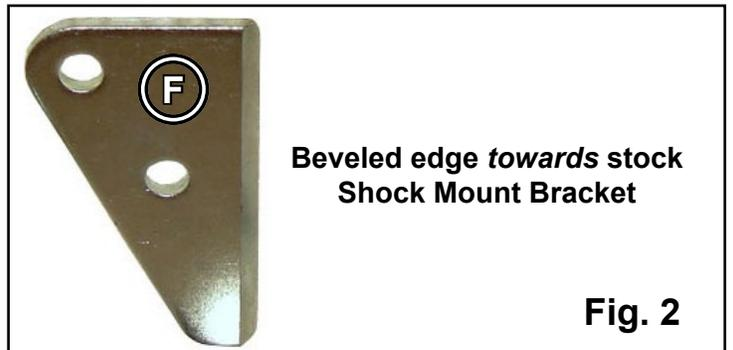
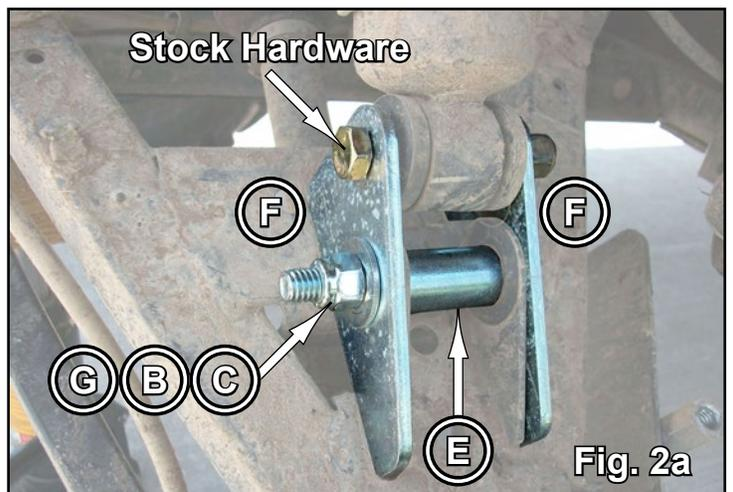
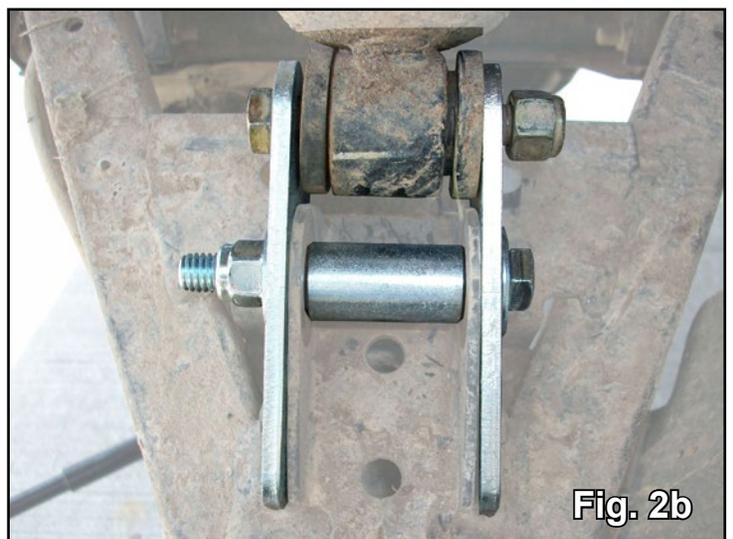

Fig. 2
Fig. 2a
Fig. 2b
3. Install (2) Rear Brackets (F) to stock Shock Mounting Brackets. Secure with (1) 3/8"-16 x 3" Lg. HHCS (G), (2) 3/8" Flat Washers (B), (1) Spacer (E), and (1) 3/8"-16 Nylock Nut. See Fig. 2, Fig. 2a, and Fig. 2b.
4. Reinstall Shock with stock hardware. Use 3/8" Flat Washers (B) to take up space between Rear Brackets (F) and Shock. New hardware is included to replace stock hardware at installers discretion.